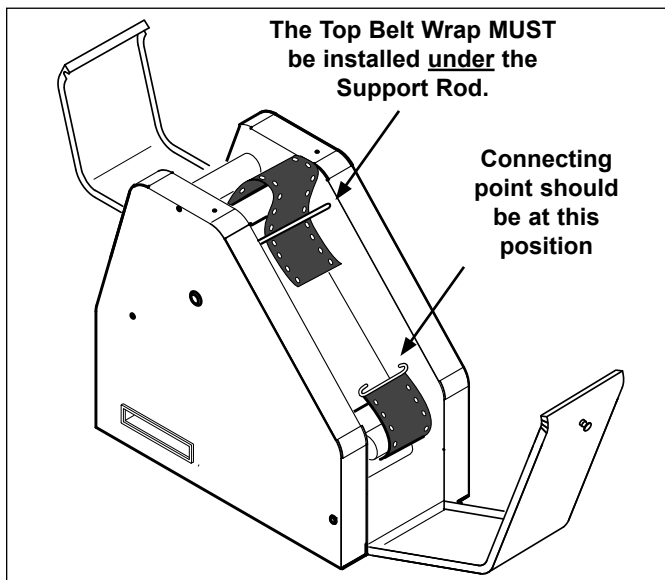

Figure 12 Installing Belt Wraps
3. Install the front Belt Wrap around the top front roller with the Connecting Pin towards the bottom of the unit (Figure 12).
4. Thread the Belt Wrap through the toaster and pull it around the lower front roller (Figure 12).
NOTE: Make sure the front Belt Wrap is threaded **UNDER** the Support Rod. Also, make sure that the Belt Wrap studs are facing the **INSIDE** (Figure 12).
5. Connect the ends of the Belt Wrap by sliding the top end over both sides of the Connecting Pin (Figures 12 and 13).